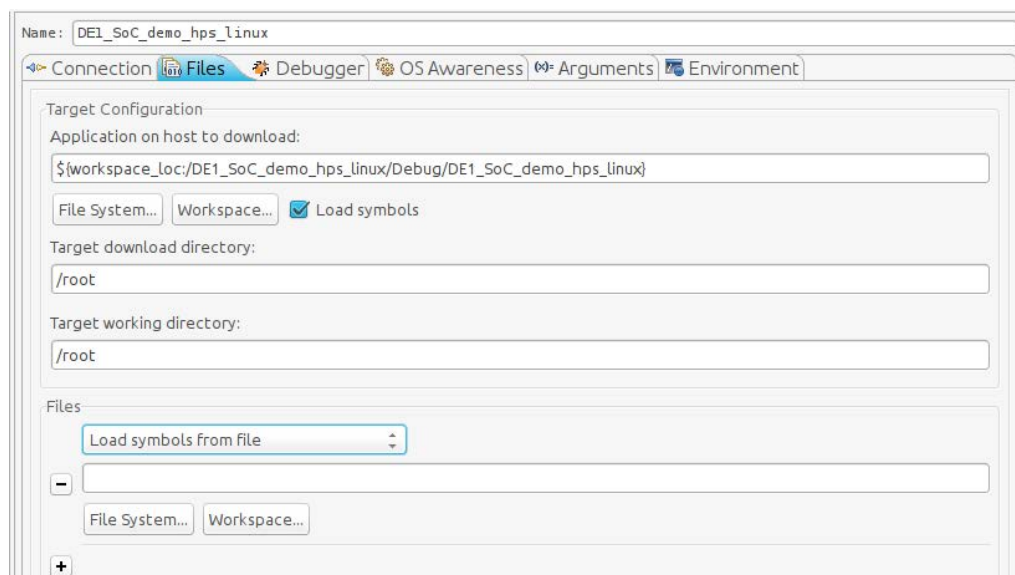

Figure 8-51. Debug Configuration "Files" Tab
- c. Set the "Target working directory" to "/root". You should have something similar to Figure 8-51.